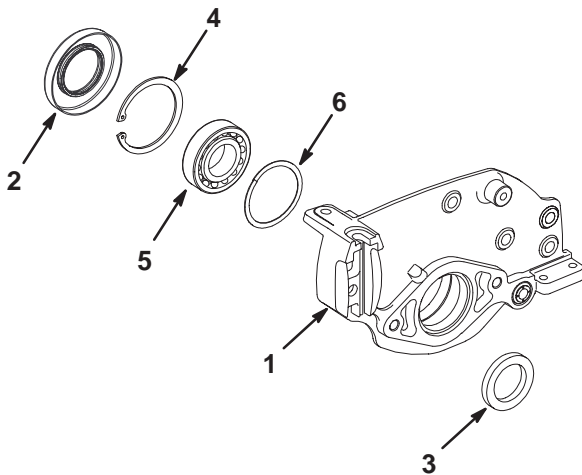

Figure 5
1. Remove the inner and outer grease seals from the side plate (Fig. 5).
2. Remove the snap ring securing the bearing in the side plate (Fig. 5). Remove the bearing. Inspect the bearing to insure that it spins freely and has minimal axial play. The bearing balls must be free of deformation and scoring. Replace the bearing if necessary.
3. Remove the wave washer (Fig. 5).
5. Insert the wave washer into the side plate (Fig. 5).
6. Pack the bearing with Mobil High Temperature HP or equivalent grease (Fig. 5). Insert the bearing into the side plate against the wave washer.
7. Press the snap ring into the groove, slightly compressing the wave washer (Fig. 5).
10. Press the outer seal into the side plate until it is flush with the mating surface (Fig. 5).